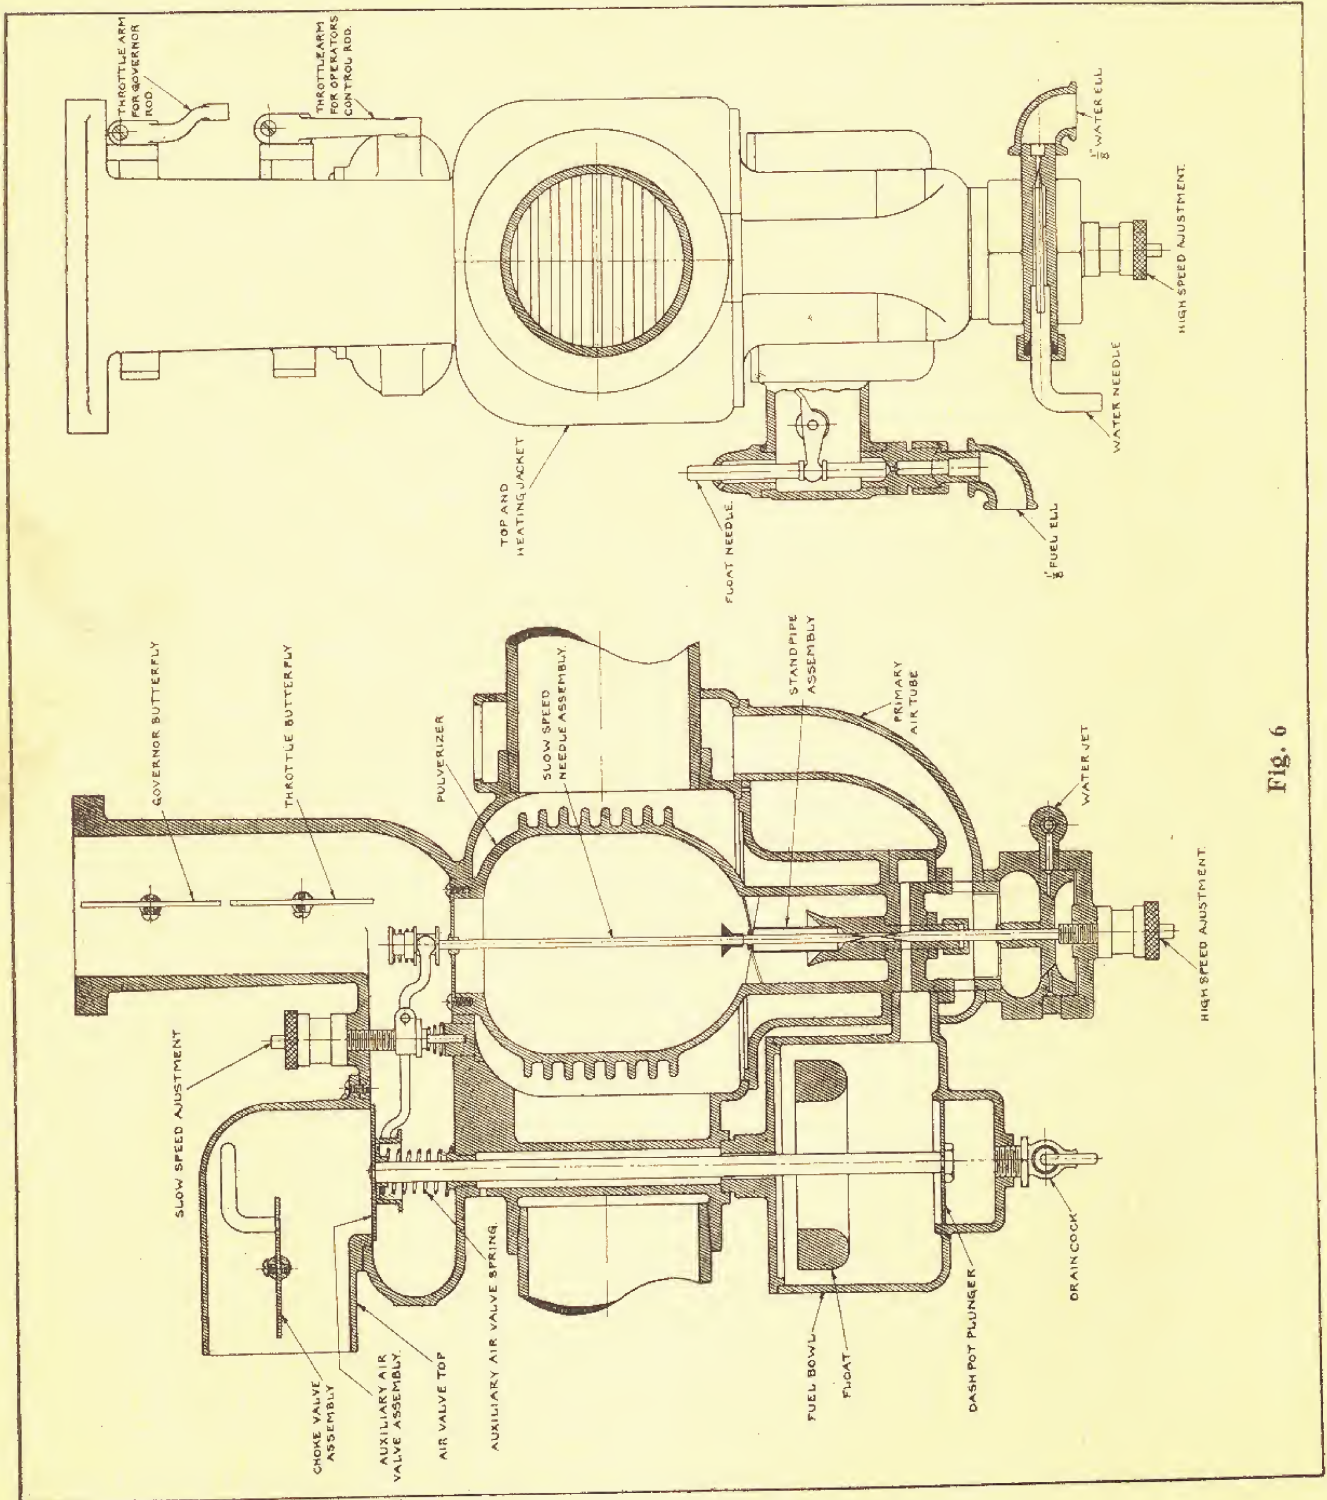

Fig. 6
**The full load adjustment** is a fuel needle and is located on the extreme bottom of the carburetor. (See Fig. 6.)